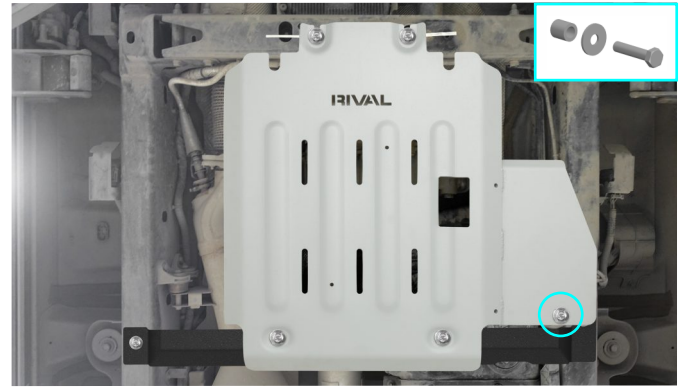

Fig. 8
8. Secure transfer case flap (item 1) using bolt M10x50, flat washer M10 and spacer 22 mm (items D, E, F) (fig.8).